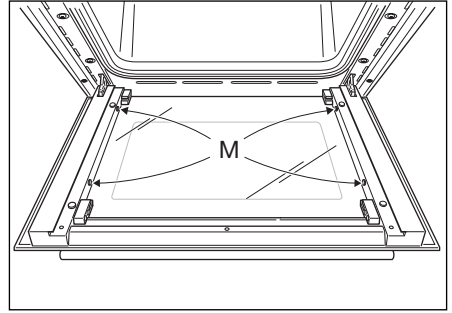

Fig.23a
- Check that the four rubber pads are in place ("M" in Fig. 23a).